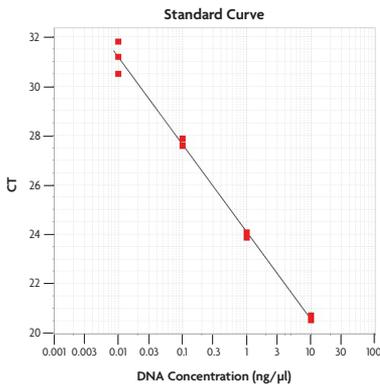

Figure 3: Example standard curve linear regression plot.
4. Plot CT versus log DNA concentration. See Figure 3 below.